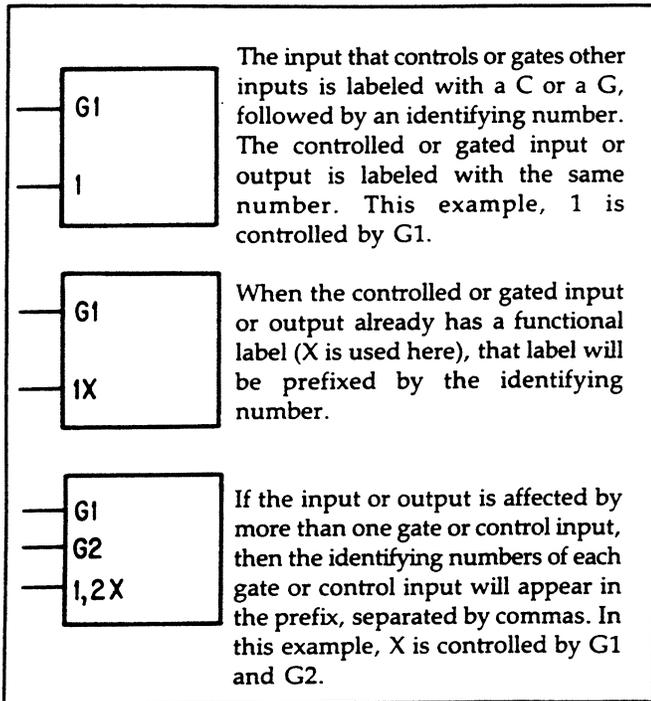

Figure A-8. AND Dependency Notation
**Dependency Notation.** Dependency notation simplifies symbols for complex integrated circuit elements by defining the interdependencies of inputs or outputs without actually showing all the elements and interconnections involved. (See Figure A-8 and A-9 for examples of AND dependency and enable dependency.)